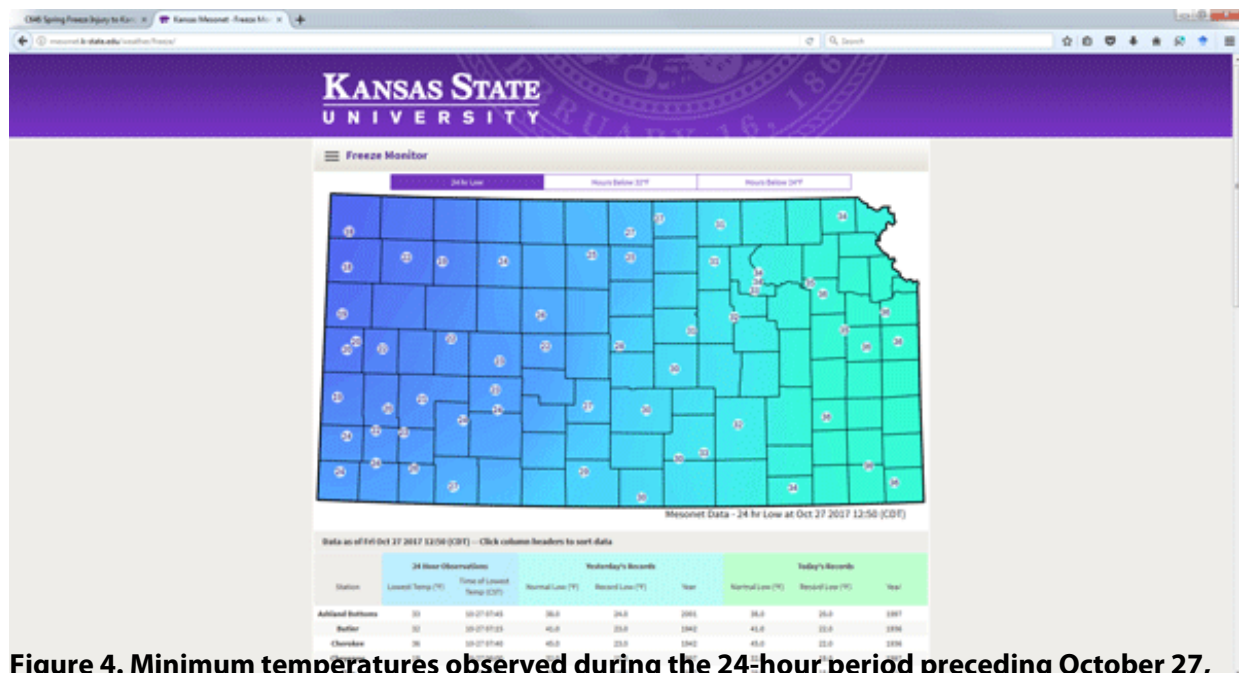

Figure 4. Minimum temperatures observed during the 24-hour period preceding October 27, 2017 at 12:50 PM. Data courtesy of Kansas Mesonet.
- First, recently sprouted wheat generally handles temperatures above 5-10 degrees F well, and air temperatures never reached those levels (Figure 4).